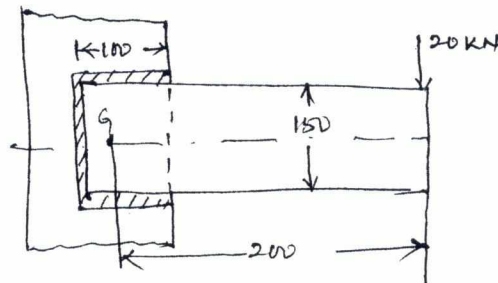

Fig.Q.7(a)
- 7 a. An eccentrically loaded bracket is welded to a support as shown in Fig.Q.7(a). The permissible shear stress for the weld material is 80MPa. Determine the size of the weld.